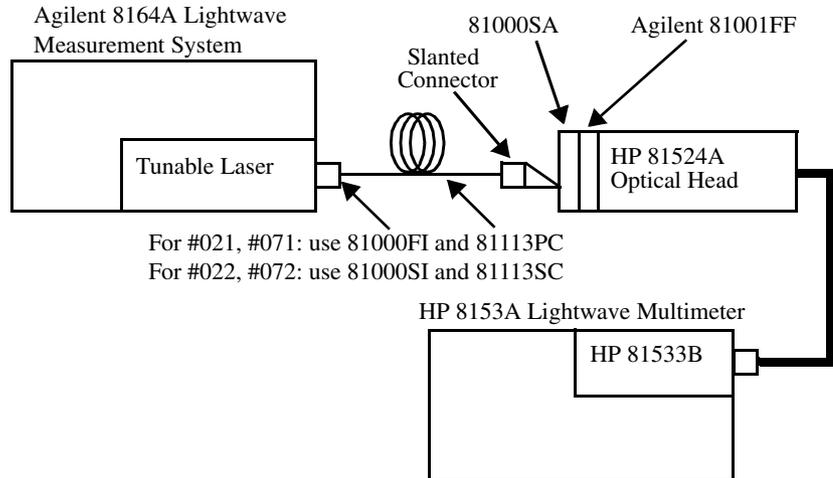

Figure 18 Test Setup for Calibrating the Agilent 81001FF Attenuation Filter
- 8** Attach the Agilent 81001FF Attenuation Filter to the Optical Head as shown in Figure 18. Move the patchcord as little as possible, keeping the laser activated.